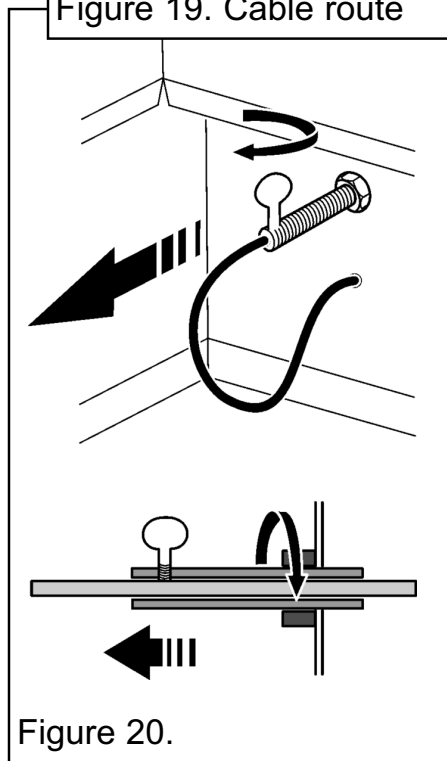

Figure 20.
cables in position. Apply tension to the cables by turning the hexagonal adjusters by hand (See figure 20).
15. Feed the free length of the cables through the small holes in the back of the convection box immediately below the cable adjusters so that they are available to allow easy removal and refitting of the appliance during subsequent service calls. **Do not cut off the free lengths of cable** (See figure 20).